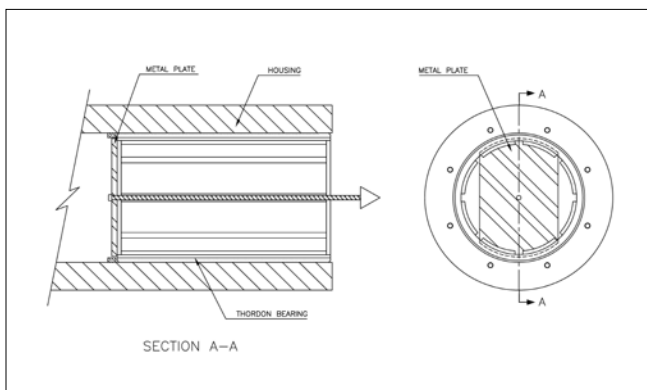

Figure 48: Technique For Removing Small Thordon Bearings
1. For smaller bearings it is often feasible to use a "come-along" to pull the bearings out. Fit a pulling plate behind the bearing to be removed and pull with a hydraulic jack. See Figure 48 below.